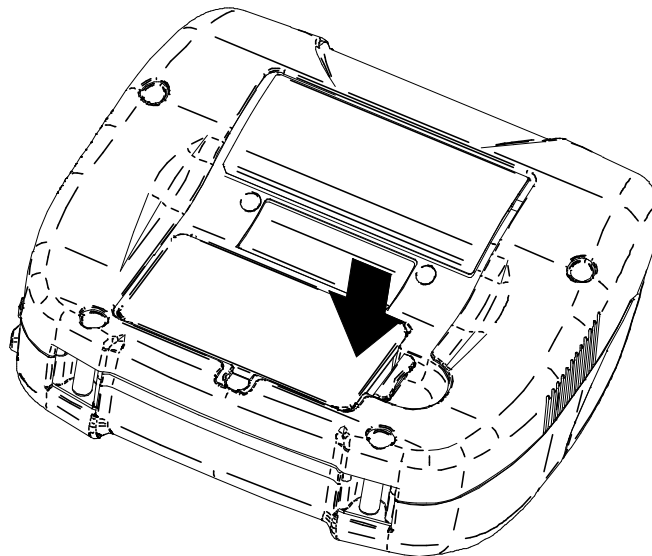

Figure 8-3 Installing the Battery Pack (3)
- (3) Press the battery pack in the direction of the arrow in Figure 8-3 until the tab "b" of the battery pack locks into the groove "B" of the printer.